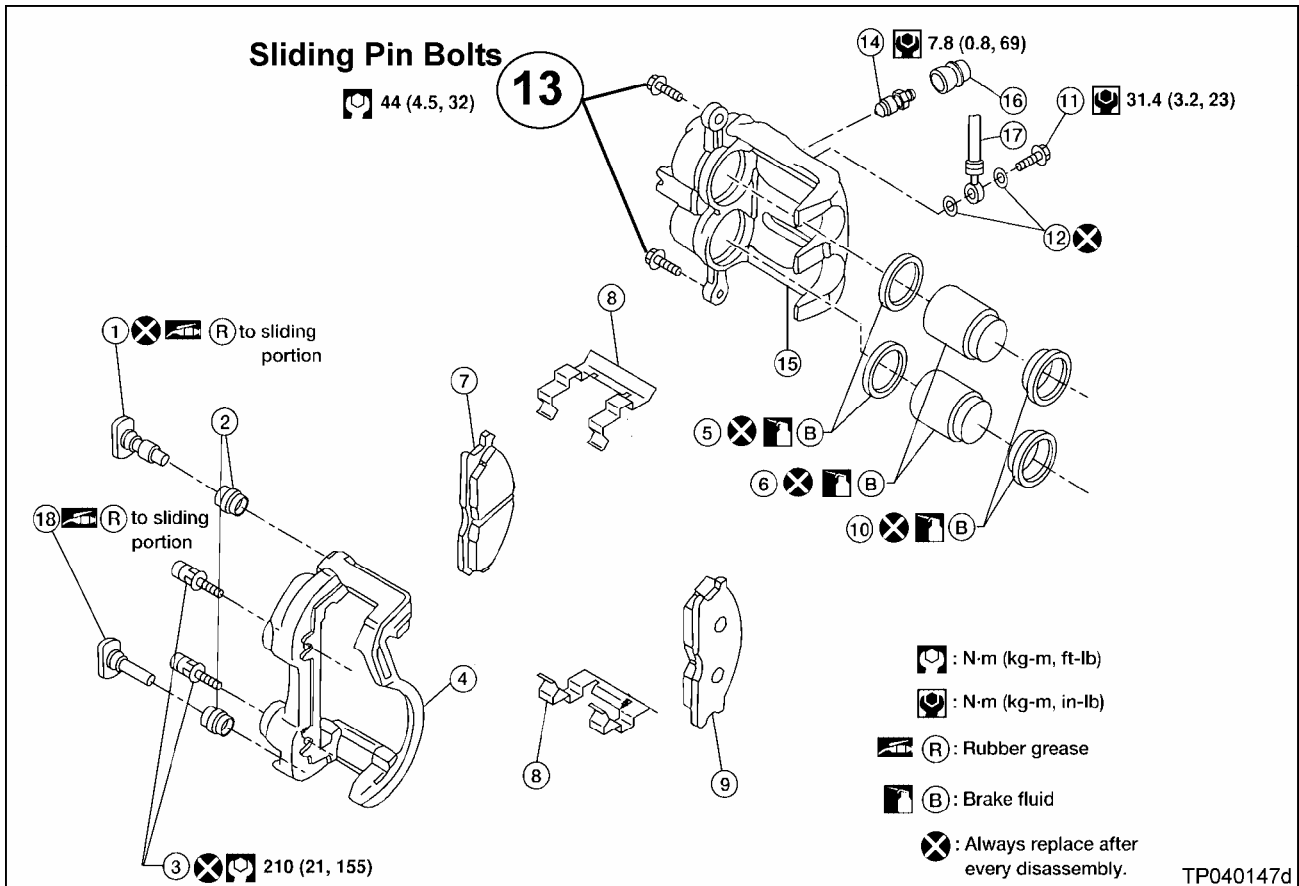

Figure 8
- Use the new Sliding Pin Bolts (see number 13 in Figure 8).